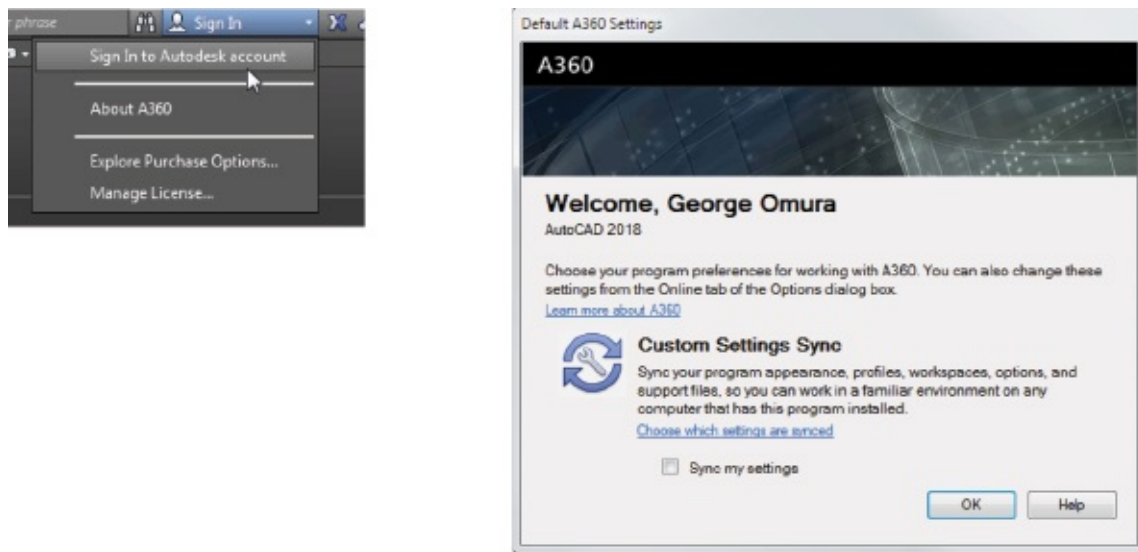

FIGURE 25.11 The Sign In To Autodesk Account menu option
1. If you are not signed in already, sign into your Autodesk account by selecting the Sign In To Autodesk Account option in the InfoCenter dropdown menu (see Figure 25.11).